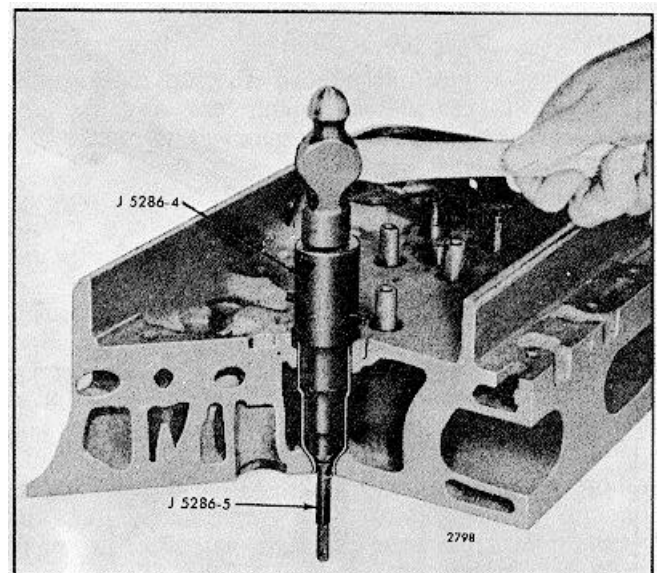

FIG. 2 Installing Injector Tube
2. Place the installer J 5286-4 in the injector tube. Then insert the pilot J 5286-5 through the small opening of the injector tube and thread it into the tapped end of the installer (Fig. 2).
3. Slip the injector tube into the injector bore and drive it in place as shown in Fig. 2. Sealing is accomplished between the head counterbore (inside diameter) and outside diameter of the injector tube. The tube flange is merely used to retain the seal ring.